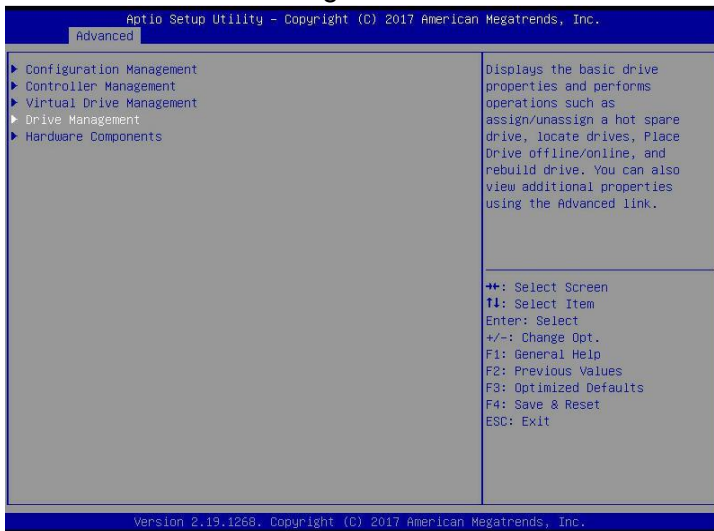

Figure 6-26
- a) As shown in Figure 6-26, select Drive Management on the RAID card configuration interface and press Enter.
✧ Figure 6-26 RAID card configuration interface